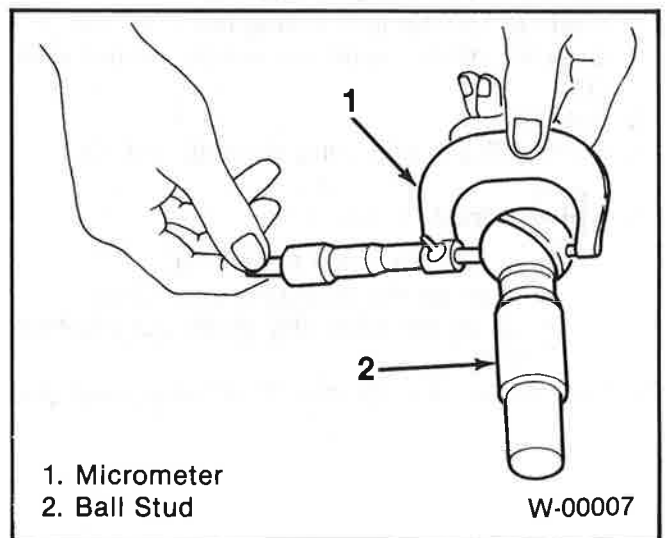

Figure 4. Measuring Ball Stud
1. Ball stud (18) and the ball stud on the pitman arm (2) diameter, using a micrometer (figure 4). If worn smaller than 26.5 mm (1.04 inches), they should be replaced. If the pitman arm ball stud is worn, the pitman arm (2) must be replaced.